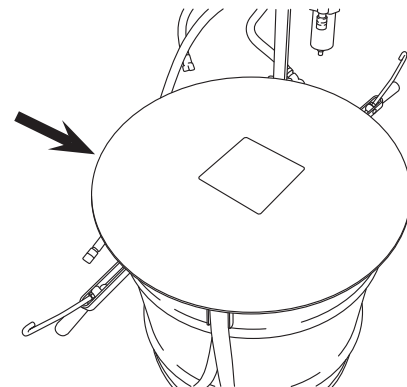

Figure 28
3. Remove the backing from the sealing membrane and adhere the membrane to the top of the ash bag. (Figure 28)